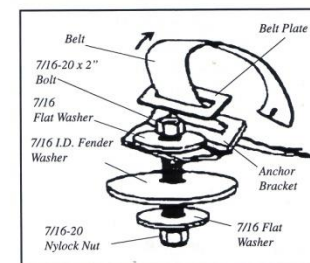

Figure 4-183 Hardware Installation
5. Secure the Anchor Bracket to the metal seat frame with 7/16-20 bolt and flat washer. On the backside of the metal seat frame (or Dexeion angle-iron strip) install a 7/16 I.D. fender washer, 7/16 flat washer, and 7/16-20 Nylock nut (Figure 4-183). Torque nut to 50 ft.lbs. (psi). Refer to Figure 4-191 and step 15 for proper threading of belt webbing through the anchor bracket and belt plate.
12. Fold the front seats forward and drill four (4) 15/32" holes for the anchor bolts (7/16-20 x 2"). Before drilling holes, make sure that no wiring or obstruction will hinder installation of the mounting hardware.
13. Secure the Anchor Bracket to the metal cross channel with 7/16-20 bolt and flat washer. On the bottom side of the metal cross channel, use 7/16 flat washer and a fender washer with the sides cut off so it will fit in the channel, and 7/16-20 Nylock nut (Figure 4-189). Torque nut to 50 ft.lbs. (psi). Refer to Figure 4-183.